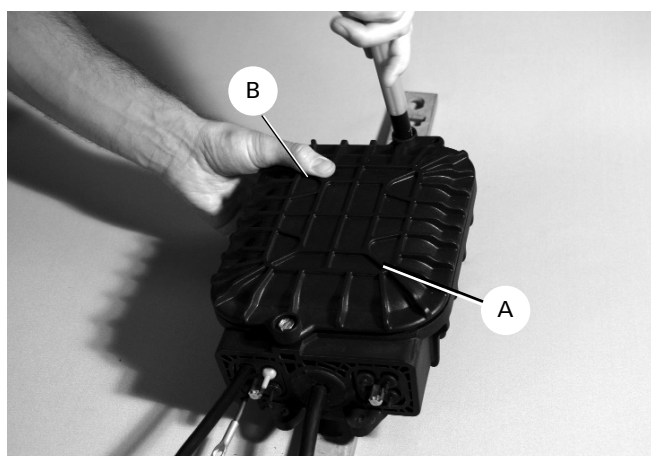

Figure 19
4. To release air pressure trapped within the closure, use a 216 tool to loosen the compression bolt on one of the drop wire grommets until the bolt turns freely. Press on the lid at points A and B as shown in Figure 19.